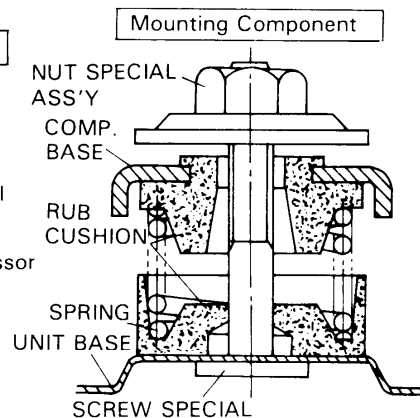

Fig. 18
* Be sure to save all mounting components with the replacement compressor for future use. Fig. 18